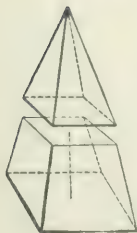

FIG. 57.
99. If a pyramid be cut by a plane, parallel to the base, so as to form two parts, as in Fig. 57, the lower part is called the **frustum** of the pyramid.